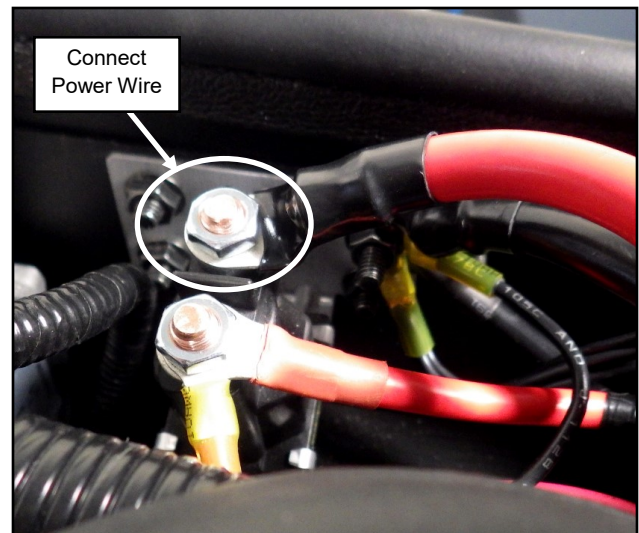

Fig. 1.6 (Connect power wire to A/C Unit)
- 1.6 Install the red power wire found on the A/C Power Supply Wire Harness onto the empty terminal found on the solenoid per fig 1.6.